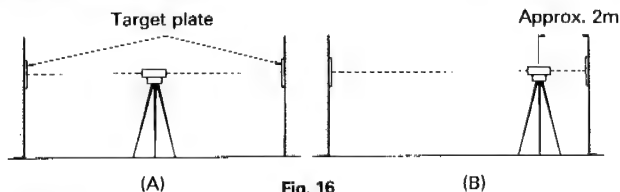

Fig. 16
- ① Prepare two same target plates. Setting up the instrument midway between two walls at a distance of 50 to 100 meters, level it. (Fig. 16(A))
- ② Sighting both walls alternately, adjust the target plates to the height so that readings of the target plates are identical, and secure them in position.
- ③ Move the instrument to a position approx. 2 meters from one target plate and level it. (Fig. 16(B))
- ④ Read both target plates.
- ⑤ No adjustment is necessary if readings of both target plates are identical.
- ① Sight the farthest target plate through the telescope.
- ② Remove the eyepiece cover, rotate the reticle adjusting screw using the adjusting pin and adjust the reading to be identical to that of the nearest target plate.
- ③ After checking that correct adjustment has been made, mount the eyepiece cover back in place.